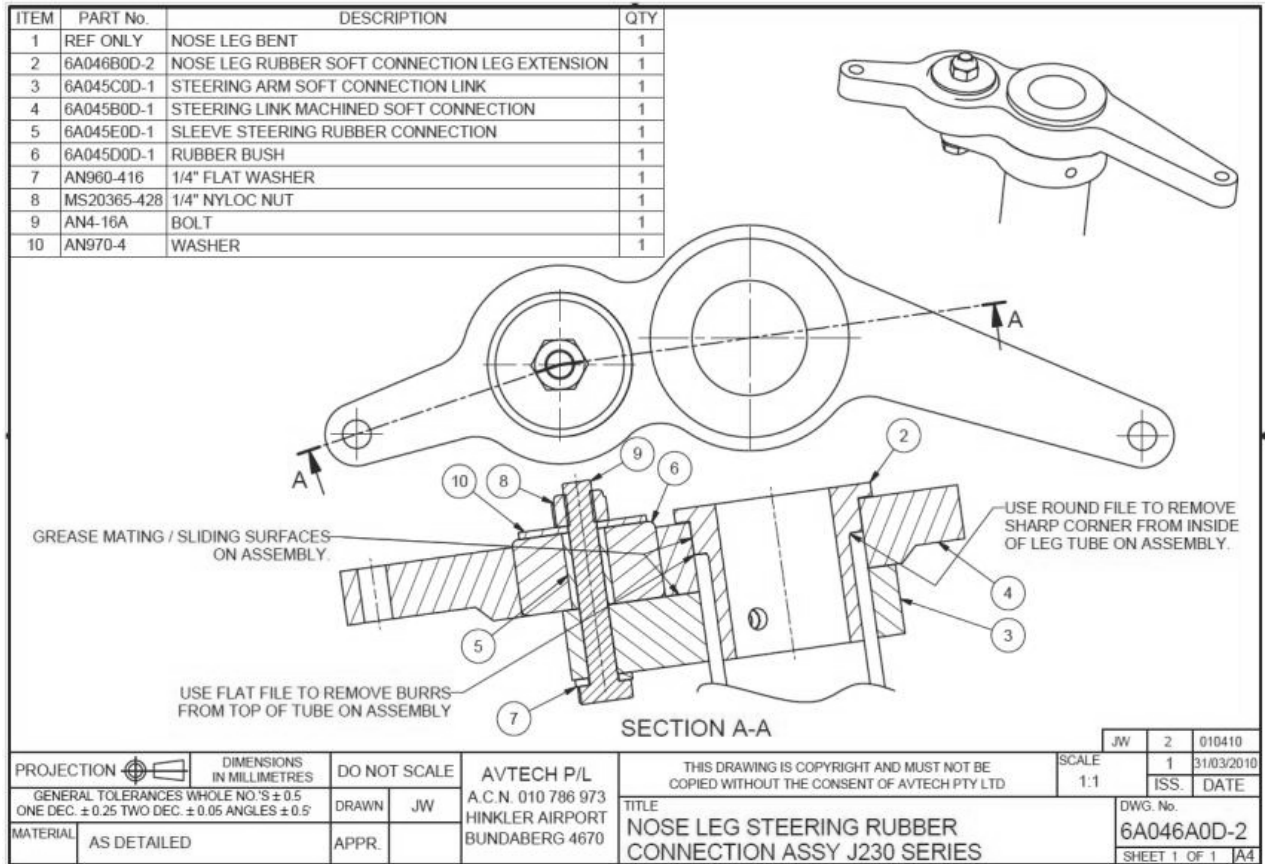

Figure 48 – Nose Leg Soft Link Assy (J200 Family)
- For all models the nose wheel steering system consists pushrods directly connecting the rudder pedals to the nose leg assembly. The systems are shown in Section 9. For some models a "soft link" is fitted between the nose leg and the rudder pedals to absorb vibrations. Details of this assembly are shown below (**Error! Reference source not found.** and Figure 48).